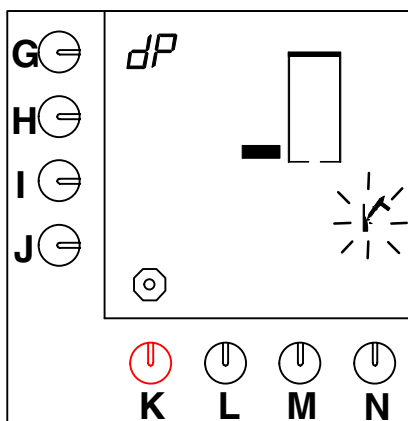

Fig. 24 First level descaling programme hot water system
- The first level block appears on the display and the hammer symbol flashes (fig.24 ).